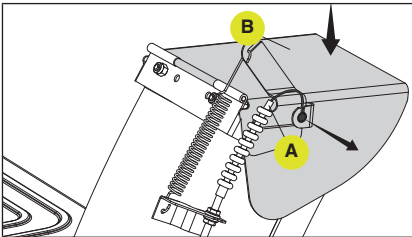

Figure 79
2. Locate the chute deflector cable (A), connected to the chute deflector (B), then push down on the chute deflector and remove the connector from the bracket. (Fig. 79)